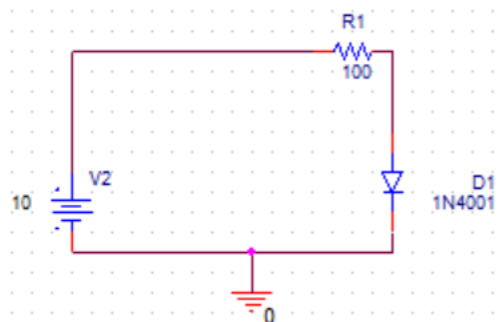

Figure1.7: Schematic for obtaining VI-characteristics of Silicon diode
1. Implement the circuit shown in Figure 1.7 using OrCAD Capture. Construct this circuit on PSpice. Start the circuit definition by placing some resistors as you desire to make a circuit. Select “Part” from the “Place” menu to open a dialog that allows you to choose the part you want to use. Parts are kept in various “libraries” for example, sources are in the SOURCE library and as we have already added all the libraries, we can simply write part name in the search bar and use the part. Refer Table 1.1.
15. To perform sweep analysis, create a new simulation profile. *New Simulation Profile* option can be found under **PSpice** in Menu bar above or from shortcut icon . From *Simulation Settings* window, in Analysis Type select DC Sweep option. Under Sweep Variable, select Voltage Source and write down the name of voltage source used in circuit e.g., in Figure 1.7 the source model name is V2. In *Sweep Type*, select *Linear*. To sweep voltage from 0.1 to 10V at an increment of 0.1 V, enter corresponding Start Value, End Value and Increment. Apply the selected settings.